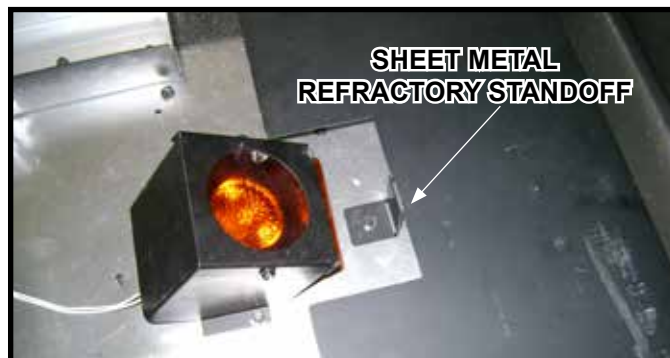

Figure 11.14 Accent Light Bulb Installation Completed
1. Remove the screw that secures the two bottom sheet metal refractory standoffs which are installed around the left and right accent light assemblies. See Figure 11.14.
3. Reassemble accent light housing. See Figure 11.14.
4. Reinstall the two bottom sheet metal refractory standoffs with one screw each. See Figure 11.14.